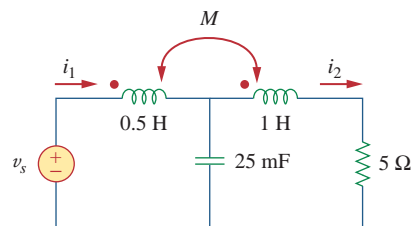

Figure 13.92
- 13.23** If $M = 0.2$ H and $v_s = 120 \cos 10t$ V in the circuit of Fig. 13.92, find i_1 and i_2 . Calculate the energy stored in the coupled coils at $t = 15$ ms.